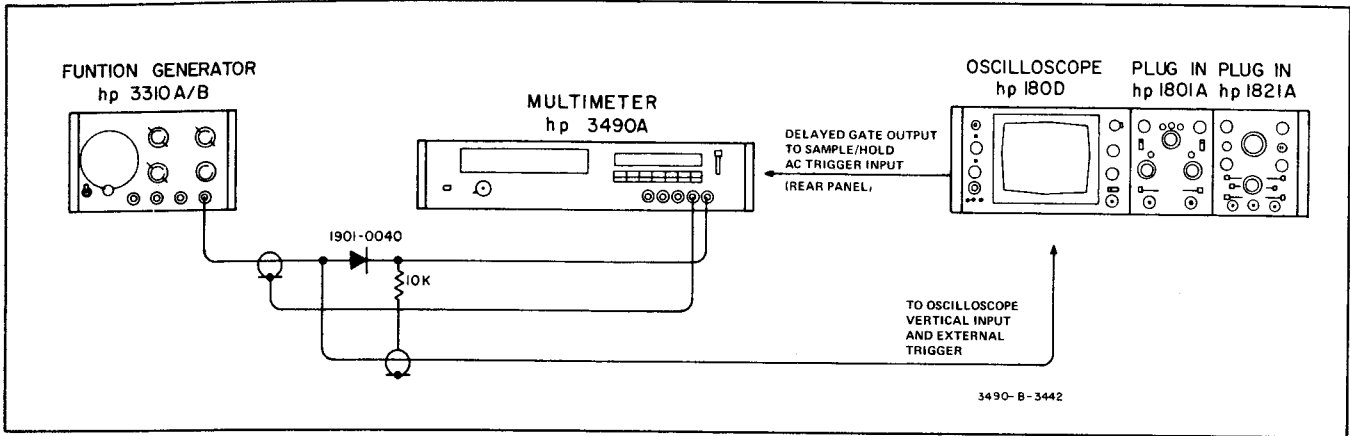

Figure 5-7. Sample/Hold Response Test.
- Connect equipment as shown in Figure 5-7. If the 3490A has BCD Remote Expand Option 020, also